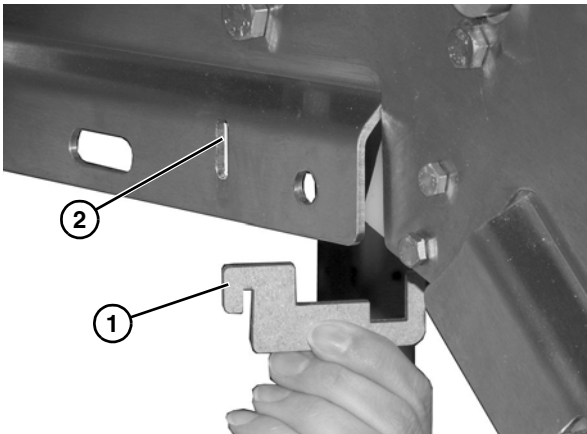

Figure 33
1. Install belt return mounting bracket (Figure 33, item 1) into slotted frame hole (Figure 33, item 2).